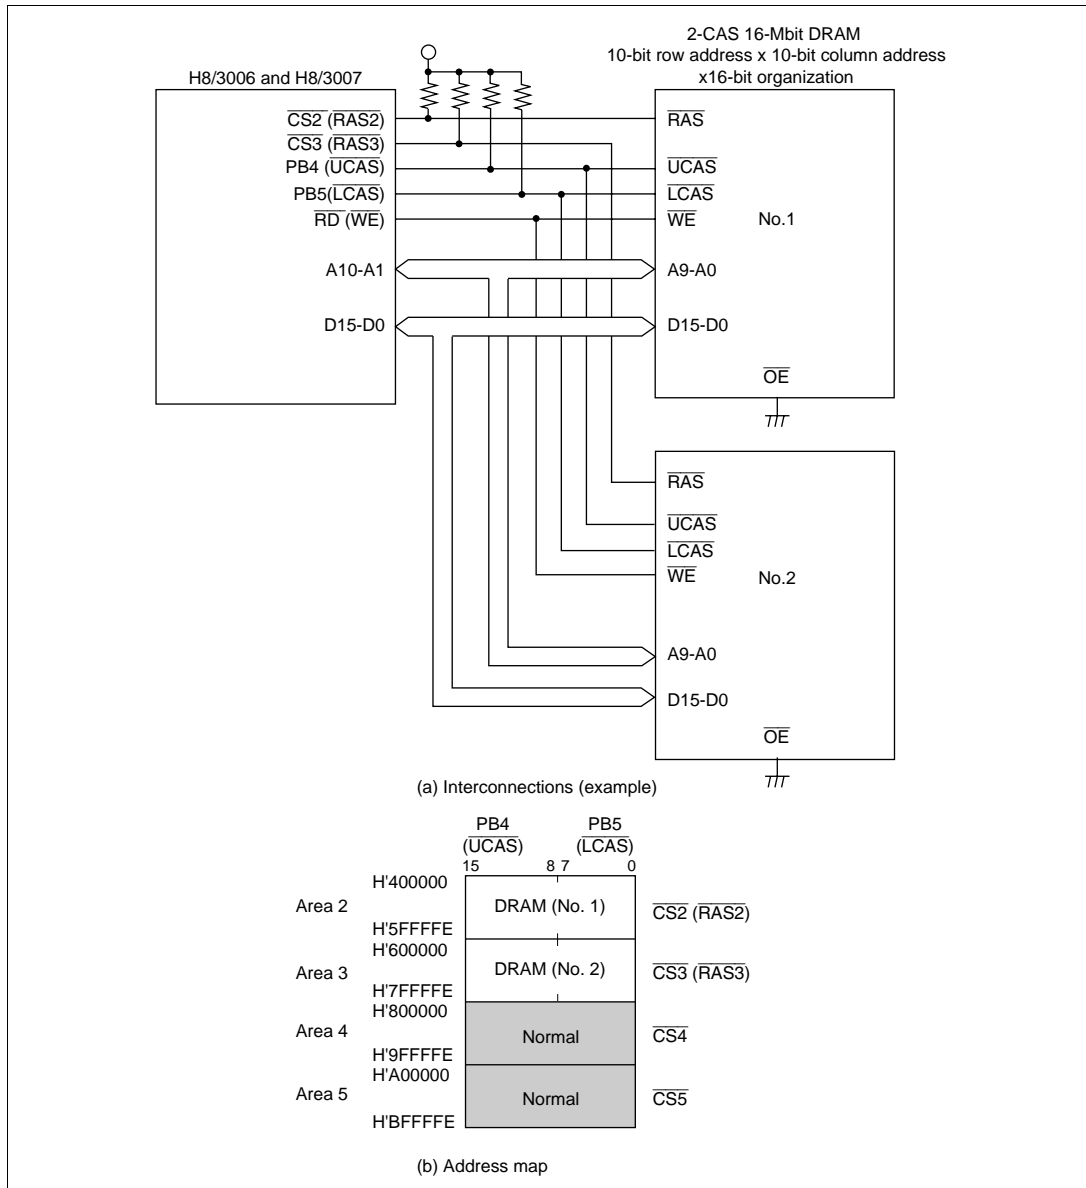

Figure 6.29 Interconnections and Address Map for 2-CAS 16-Mbit DRAMs with $\times 16$ -Bit Organization
- Figure 6.29 shows typical interconnections when using two 2-CAS type 16-Mbit DRAMs using a $\times 16$ -bit organization, and the corresponding address map. The DRAMs used in this example are of the 10-bit row address \times 10-bit column address type. Up to four DRAMs can be connected by designating areas 2 to 5 as DRAM space.